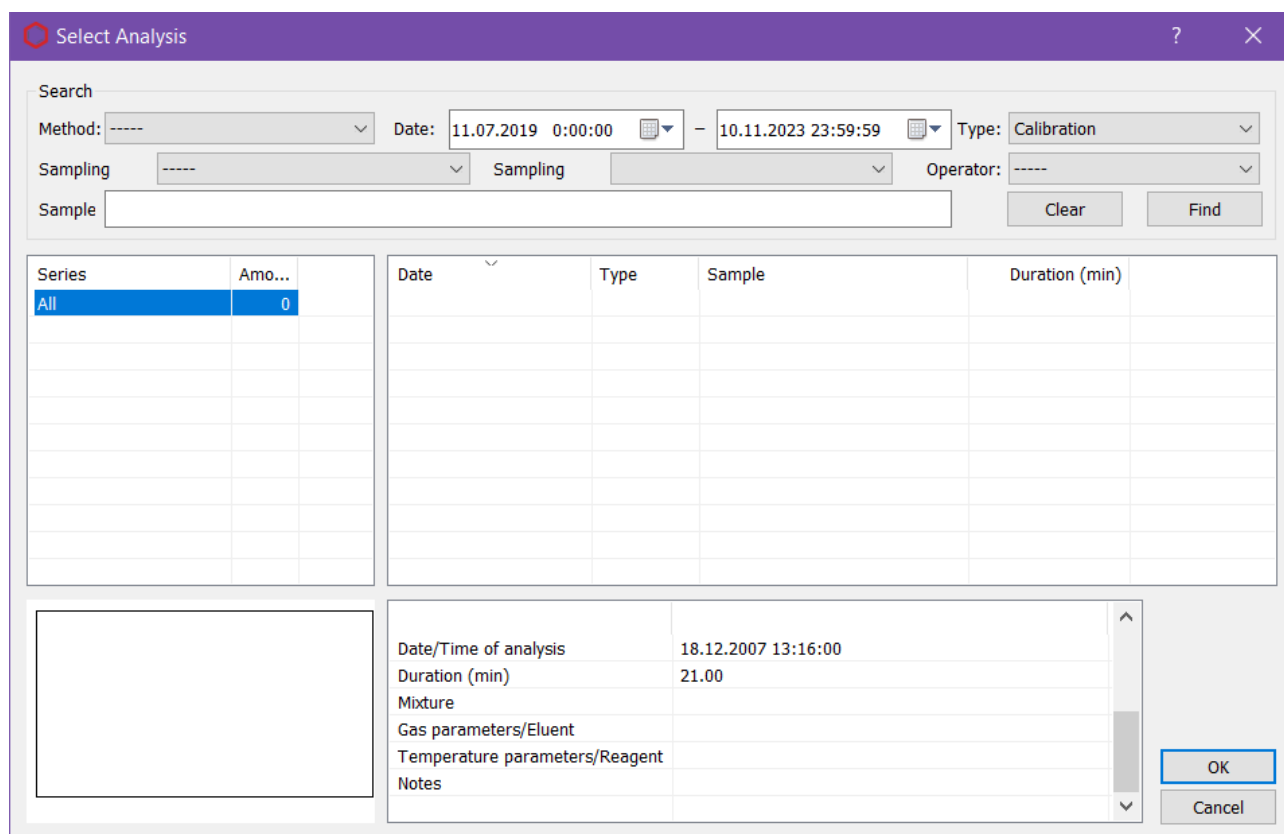

Fig. 3. Select Analysis
- Click **Add**. The *Select Analysis* window opens (Fig. 3).